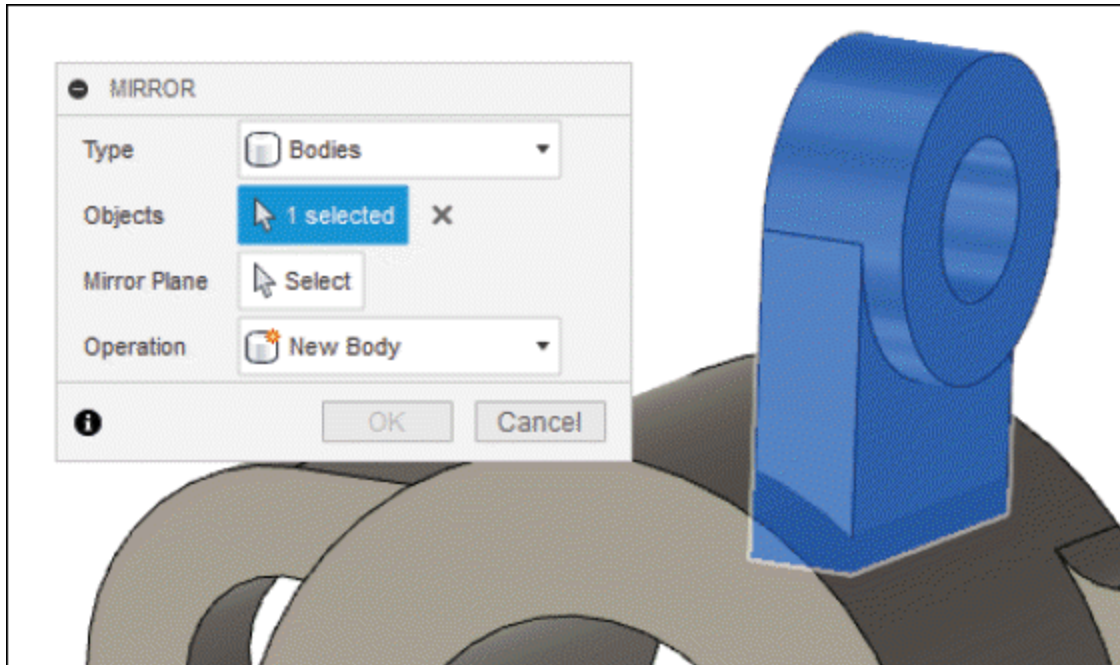

Figure-58. Body selected to be mirror
- The **Select** button of **Objects** section is active by default. Select recently created body to be mirror; refer to Figure-58. You are asked to select the mirror plane.